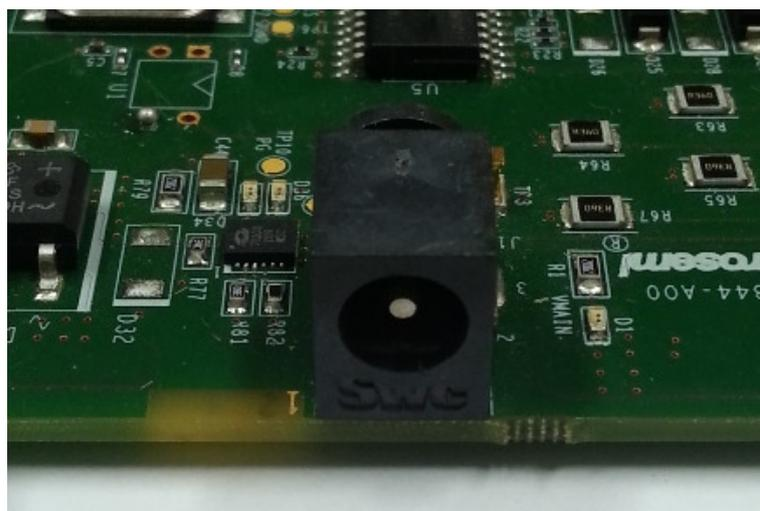

Figure 6: V_{in} Connector
2. V_{in} Connector (see Figure 6)